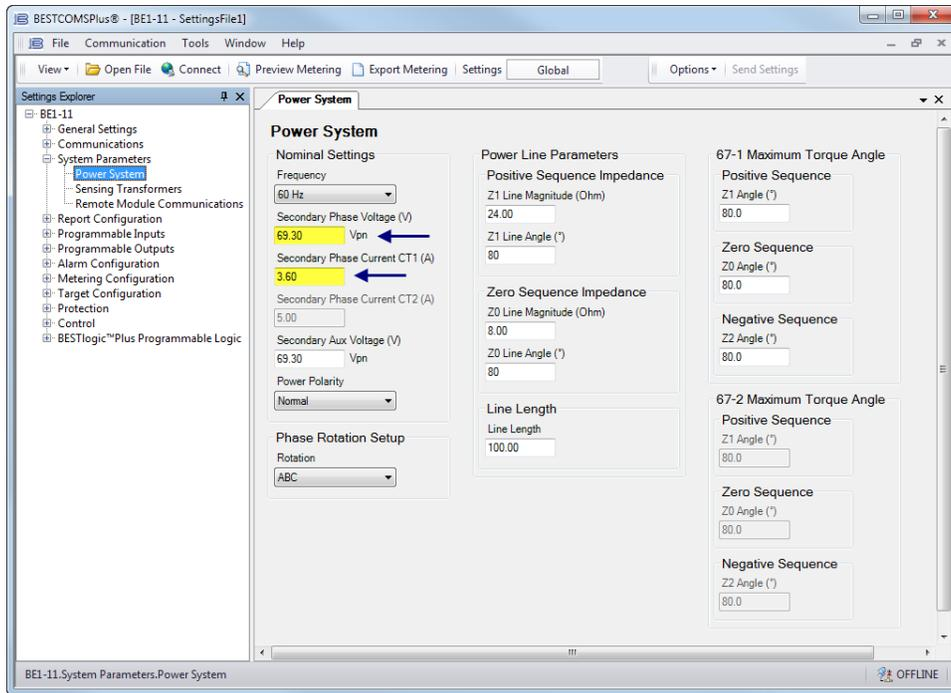

Figure 10. Power System Screen
- Step 5: In the Settings Explorer, click the “+” next to BE1-11. This expands the sub menus in the tree. Now expand System Parameters and select the Power System screen. See Figure 10.